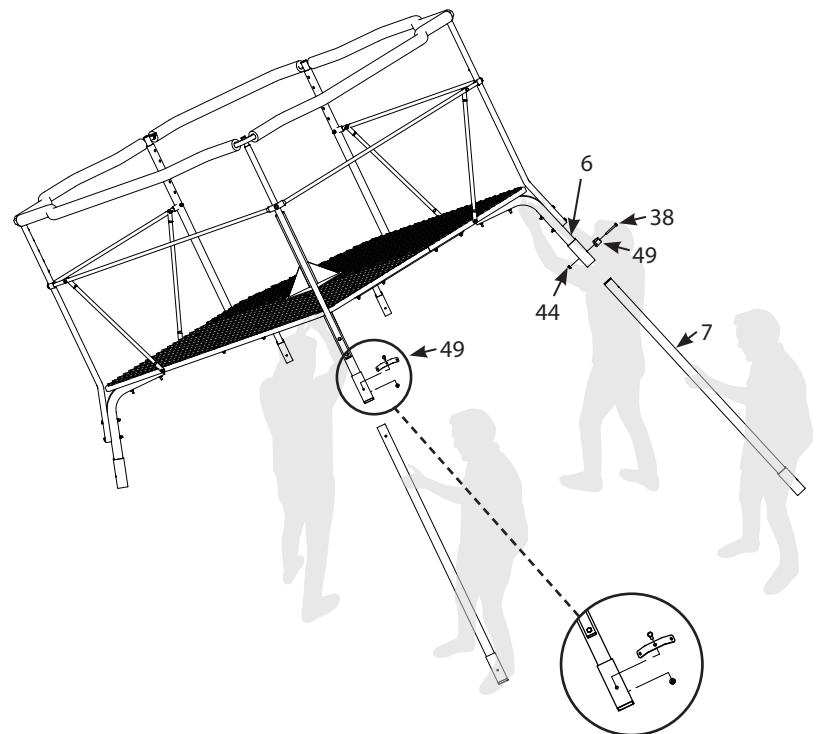

FIGURE 10
10. With the help of two people, tip assembled platform onto the side shown in Figure 10 by lifting on the opposite side and inserting two top legs (7) into leg-to-platform attachment parts (6). Attach a brace-to-leg attachment bracket (49) to each leg and secure together using a 1/4-20 X 2-1/4 IN bolt (38) and 1/4-20 nut (44) for each leg. Bolts must go through all parts (49, 6, 7). **SEE FIGURE 10.**